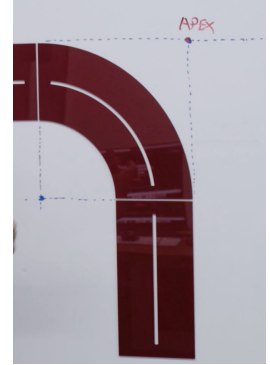

Figure 1.1
- **Apex:** The apex is an imaginary point where the two outer tangent lines of adjacent flanges intersect. It's not used in calculations but serves as a reference for key measurements like bend angle, setback, and flange length (see Figure 1.1).